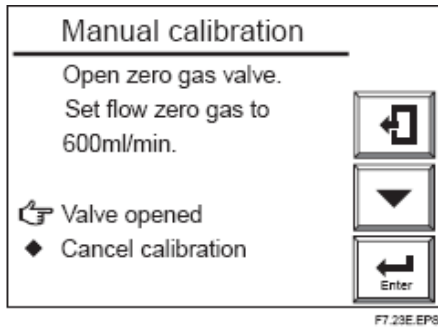

**Figure 7.21 Span Calibration Complete Zero calibration start Display**
- (5) After the measured value has stabilized, press the [Enter] key to display the “span-calibration complete” display shown in Figure 7.21. At that point, the measured value is corrected to equal the span-gas concentration setting. Close the span-gas flow valve. The valve lock-nut should be tightened completely so that the span gas does not leak.
- (6) Select Zero calibration as in Figure 7.21 to display the zero-gas concentration check display (Manual calibration) . Check that the zero-gas oxygen concentration value and the calibration gas oxygen concentration value agree. Then select Next as in Figure 7.22.